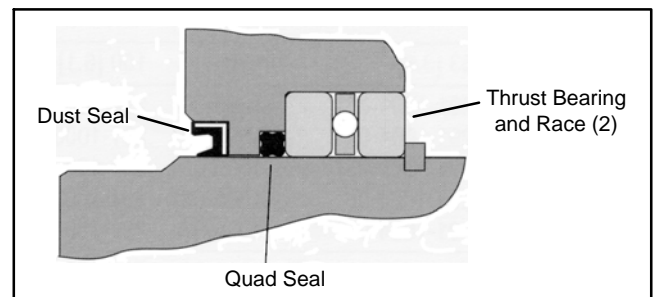

Figure 66
1. Install the quad seal (Fig. 66):
8. Put the thrust bearing and races into the housing. The thrust bearing goes between the two races (Fig. 66).